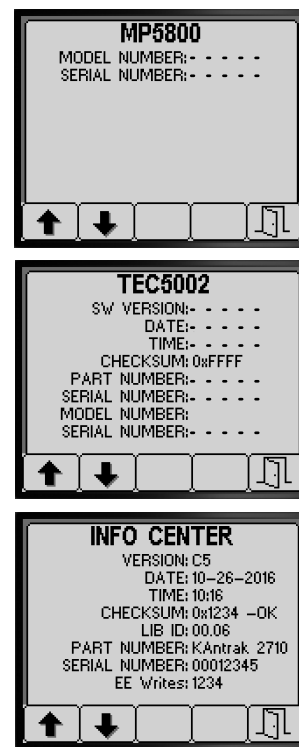

Figure 89
3. Press buttons 1 or 2 to scroll the machine information screen, the TEC controller information screen, or the InfoCenter information screen (Figure 89).